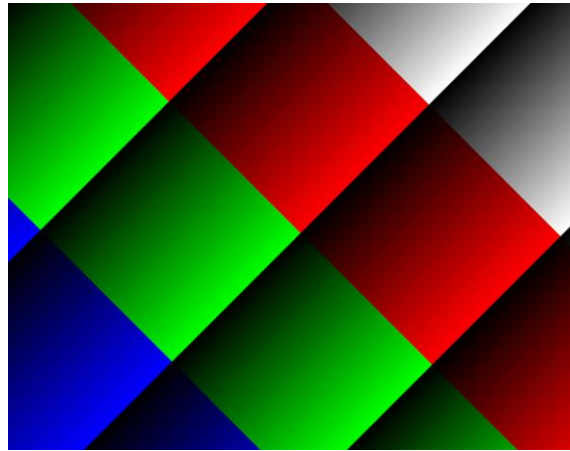

Figure 21 – Diagonal color pattern
3. Diagonal color ramp – diagonal gradient of several color stripes as shown in Figure 21.